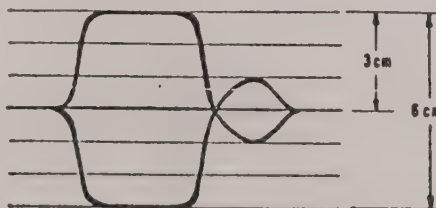

Figure 5-5: Transmitter Amplitude
- d. Set the Oscilloscope sweep for 0.1 μ sec/cm and vertical sensitivity for 0.05V/cm. Adjust potentiometer R6 (+5V Adjust), on the upper edge of the Power Supply board, for a pulse height of 1.5V (3 cm) $\pm$ 0.1V peak or 3.0V (6 cm) $\pm$ 0.2V peak as shown in Figure 5-5.